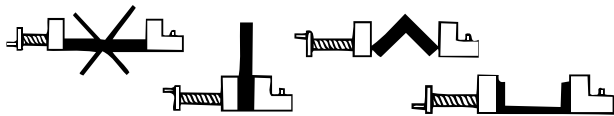

Figure 6 – Clamping The Workpiece
- Clamp the material correctly and ensure that it is centered relative to the blade (Figure 6).